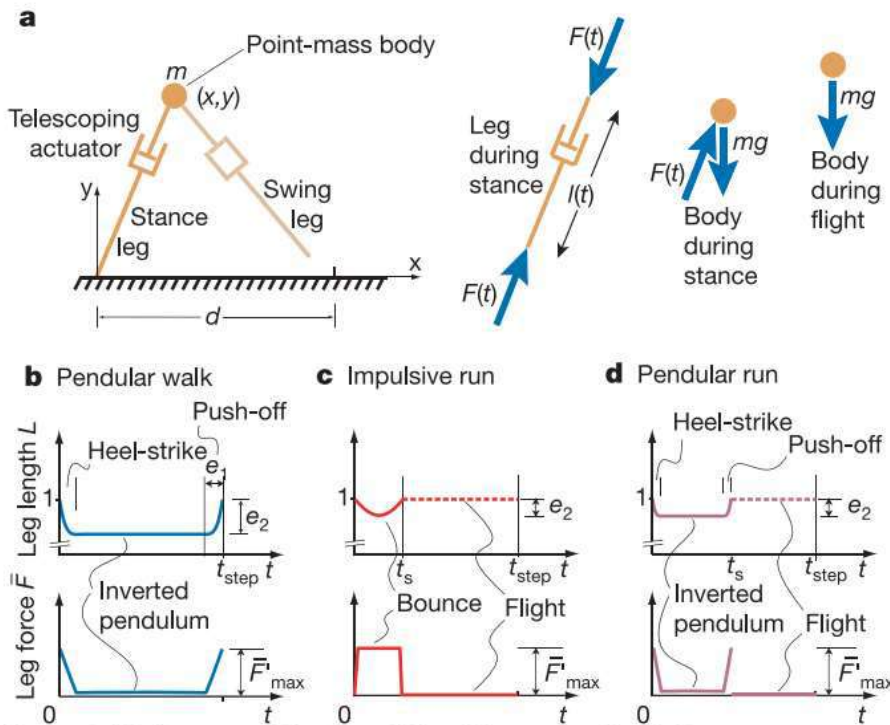

Figure 2 | Point-mass biped model and its optimal solutions.
Fig. 2. Three level-ground powered walking robots based on the ramp-walking designs of Fig. 1. (A) The Cornell biped. (B) The Delft biped. (C) The MIT learning biped. These powered robots have motions close to those of their ramp-walking counterparts as seen in the supporting on-line movies (movies S1 to S3). Information on their construction is in the supporting online text (9).